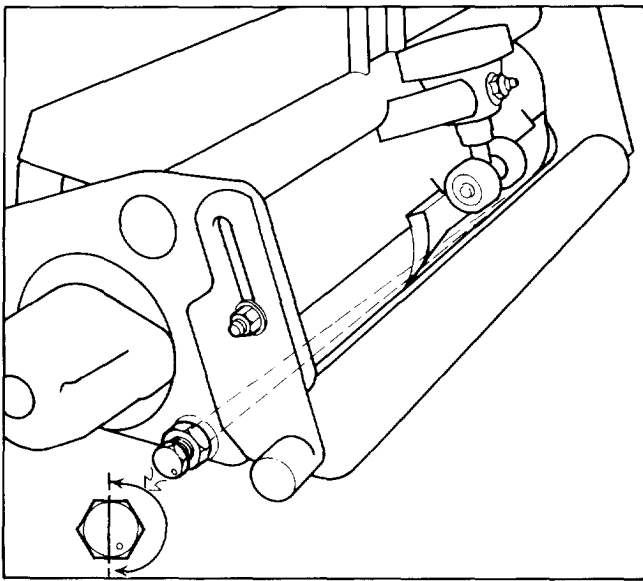

Figure 16
4. Loosen jam nut on left hand bedbar pivot bolt enough to ease in turning bolt. The left hand pivot bolt has an offset thread which, when rotated, acts as a cam to raise or lower the bedbar. On the bolt head there is an identification dot which denotes the offset of the bolt. When the dot is in the up position (Fig. 16) the left end of the bedbar is raised. As the bolt is turned clockwise and dot is lowered, so is the left end of the bedbar. **Identification dot is to be positioned within the rear (180°) position when adjusting.**